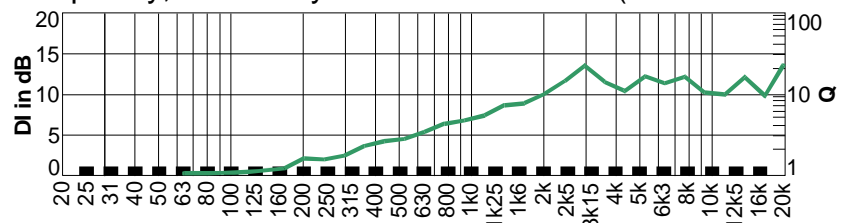

Figure 7. Q and DI with frequency
Thus, a spherical source has a Q factor of 1 and a directivity factor of 0 dB, and a hemispherical (half-sphere) source has a Q factor of 2 and a directivity factor of 3 dB. Typical directivity indexes for a horn would spread from 10 to 20 dB, corresponding to Q factors of 10 to 100. The DI for the polars represented in Figure 4 is 12 dB (Q factor of 16). On-axis sensitivity and DI have a direct correlation. For a compression driver/horn from our 2-way speaker example, an X dB more directional horn will result in X dB more sensitivity. Using a subwoofer as an example, when it is placed against a wall it will increase in sensitivity by 3 dB (DI will change from 0 to 3 dB, Q factor from 1 to 2) as compared to its free-field sensitivity. Figure 7 show the DI and Q with frequency for our example 2-way system. We can see a rising response from the 15" woofer, which corresponds to the narrowing of the cone's directivity, as frequency increases (also referred to as "beaming"). In contrast, the directivity that the horn exhibits is fairly constant with frequency, commonly referred to as a CD (constant directivity) horn. DI (Q) and coverage angles are typically plotted for 1/3rd-octave bands.